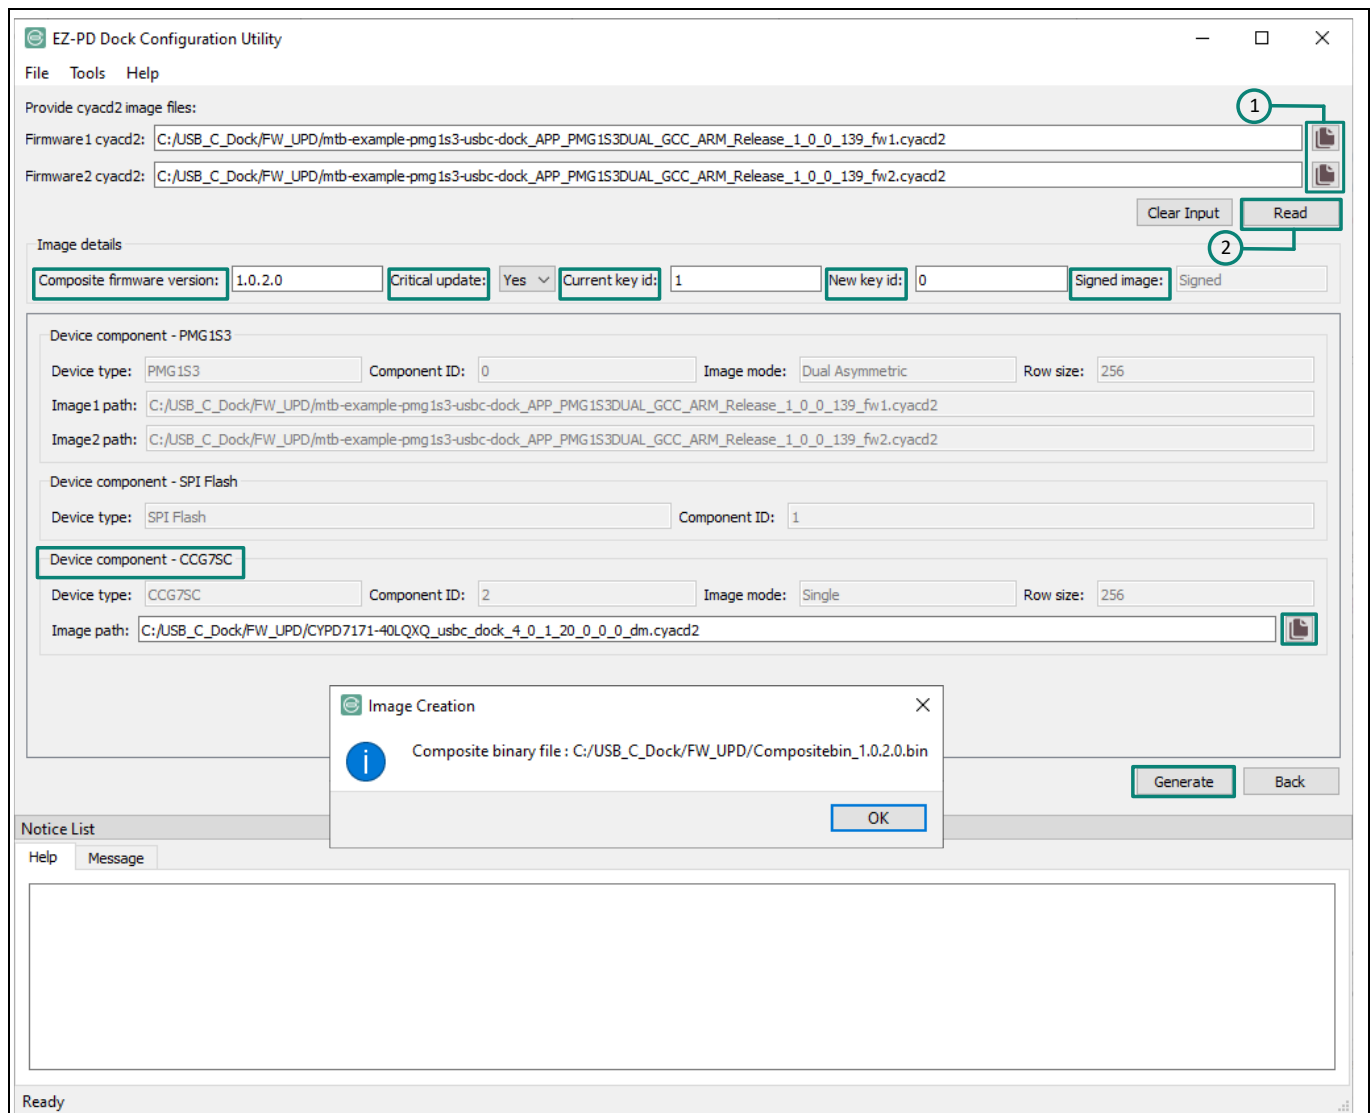

Figure 20 Composite bin creation
- c) When the Composite firmware version value is specified as 1.0.2.0, the Utility generates the file with the name *Compositebin_1.0.2.0.bin*, as shown in Figure 20.